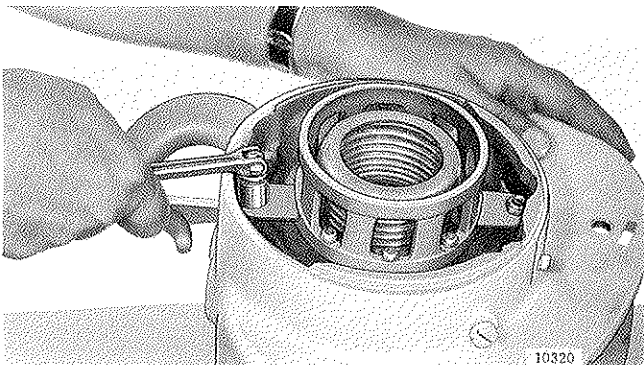
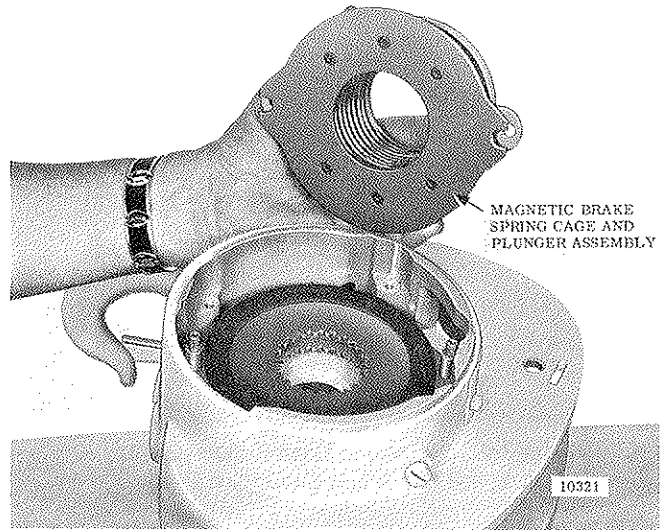

Figure 7-15. Removing Self-locking Nuts Securing Spring Plunger to Brake Plate Pins
Figure 7-16. Removing Magnetic Brake Spring Cage and Plunger Assembly
(1) Remove two self-locking nuts (fig. 7-15) securing brake spring cage to brake plate support pins and lift out assembled spring cage plunger, spring and compression plate (fig. 7-16). This assembly need not be further disassembled unless parts require replacement.
(2) Lift out two friction discs and one friction plate. Do not remove plate support pins unless replacement is necessary.